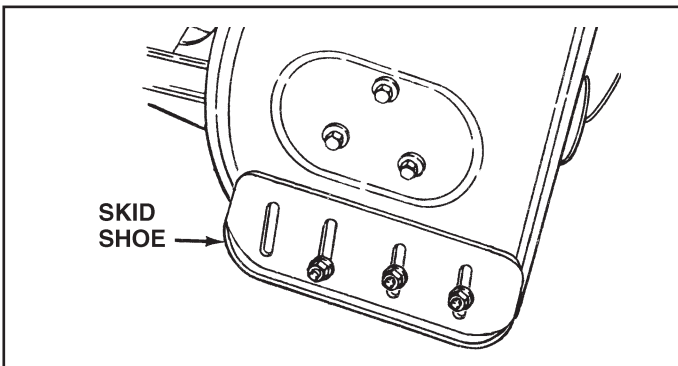

FIGURE 36
(Refer to figures 36 and 37 on page 20.)
- To adjust the skid shoes, raise the snow thrower off the ground and place a block under each end of the scraper plate. Loosen the six hex nuts securing the skid shoes to the housing. Adjust the skid shoes up or down and retighten the nuts securely. Adjust both skid shoes to the same height to keep the housing and the scraper plate level. See figure 36.